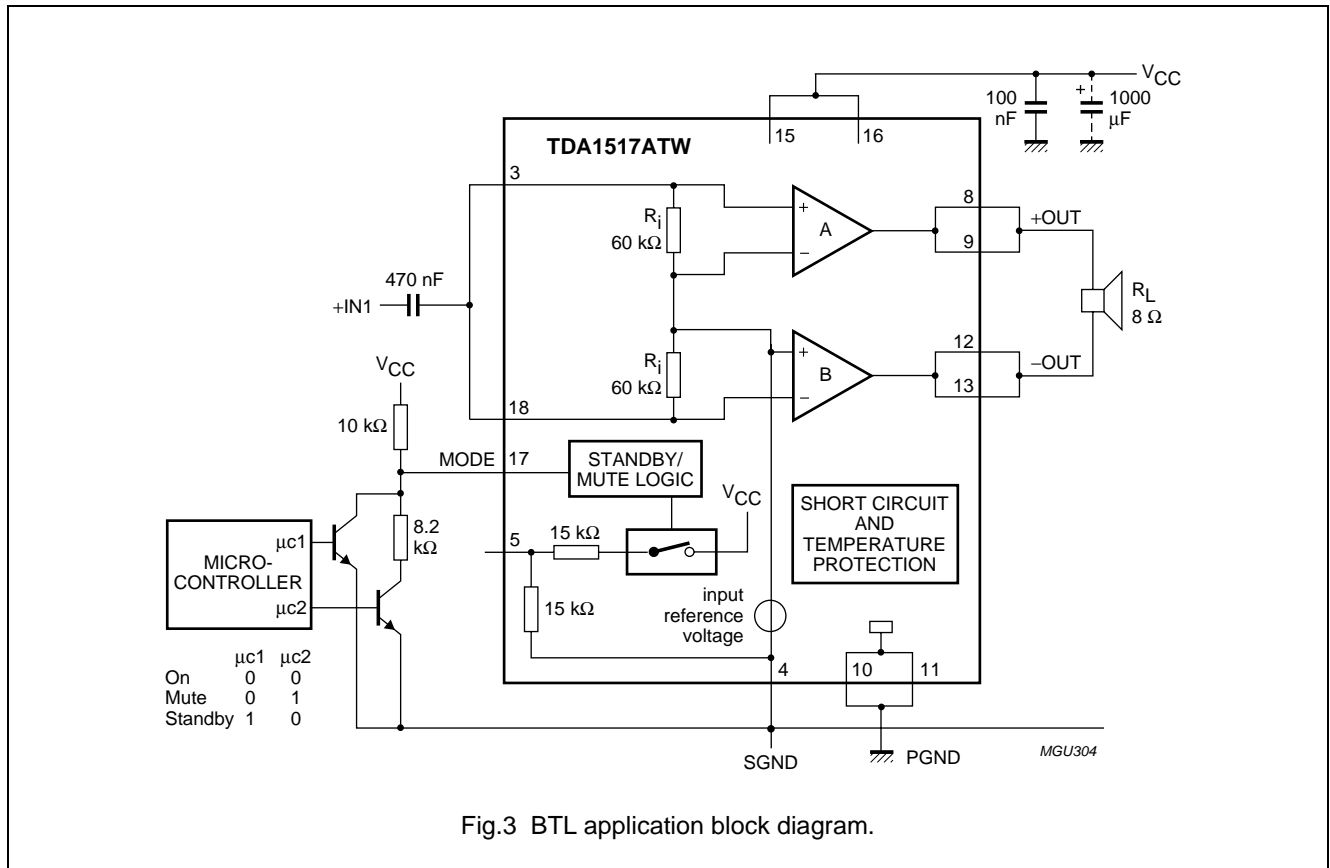

Fig.3 BTL application block diagram.
$V_P = 12$ V; $T_{amb} = 25$ °C; measured in Fig.3; unless otherwise specified.
8. $R_L = 8 \Omega$, measured in Fig.3.
The BTL application block diagram is shown in Fig.3. The PCB layout [which accommodates both the mono (BTL) and stereo (single-ended) application] is shown in Fig.6.